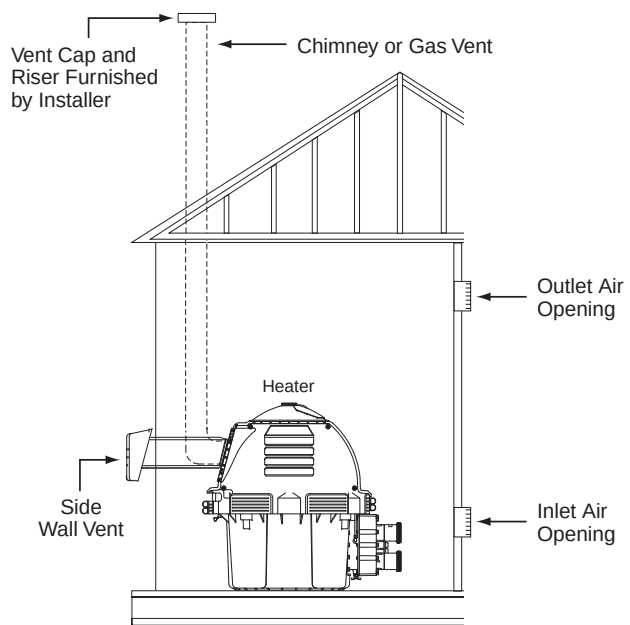

Figure 16.
HORIZONTAL OR VERTICAL VENTING - POSITIVE PRESSURE (See Figures 16, 17, and 18)
6. **Vent Termination – Vertical** (See Figures 16 and 17), for height of vent termination above the roof. Use an "Approved" vent terminal specified by local and national codes and your manufacturer's instructions. A roof termination must be vertical. In Canada, the Vent Cap location shall have a minimum clearance of 4 feet (1.2M) horizontally from electric meters, gas meters, regulators, and relief openings.